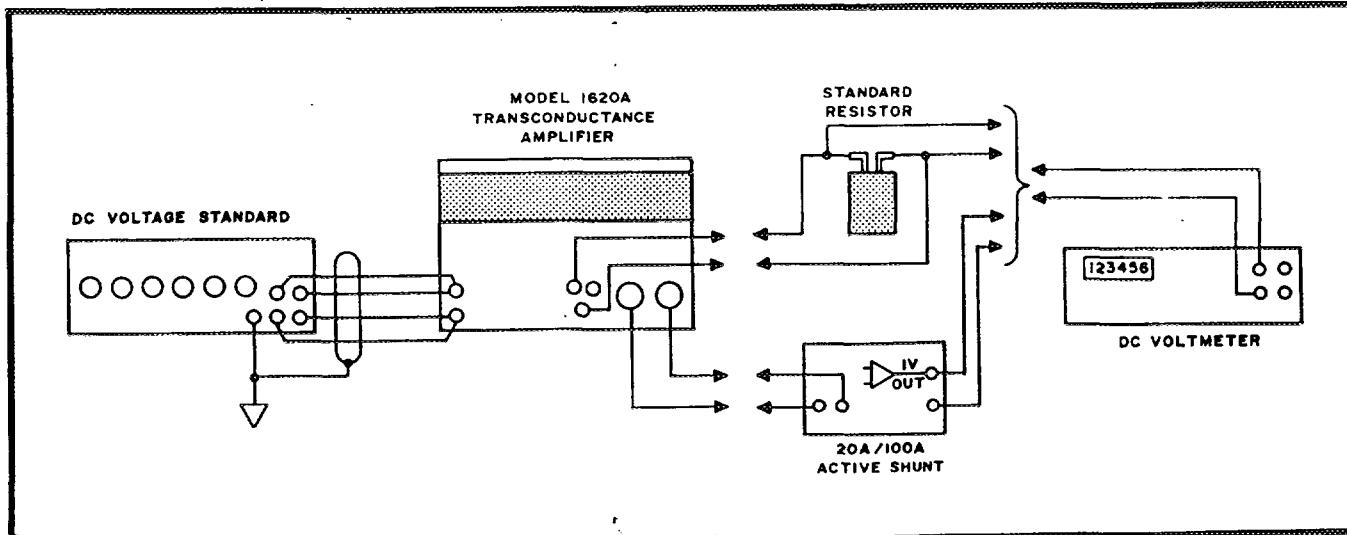

Figure 5-1. DC Current Check, Equipment Test Set-Up
5-10. Connect the test set-up for DC Current Calibration as shown in figure 5-1. Connect ac mains voltage to nominal voltage 100, 120, 220, 240 as specified in figure 3-3.
b. Connect the ac power line input to the voltmeter thru a line voltage control unit (Vari-ac) and use a true rms voltmeter to measure the input line voltage to the instrument under test. See figure 5-1.
5-45. Connect the DC test set-up shown in figure 5-1 with DC Standard at 0 volts and lowest RANGE.
5-49. Connect the DC test set-up shown in figure 5-1.